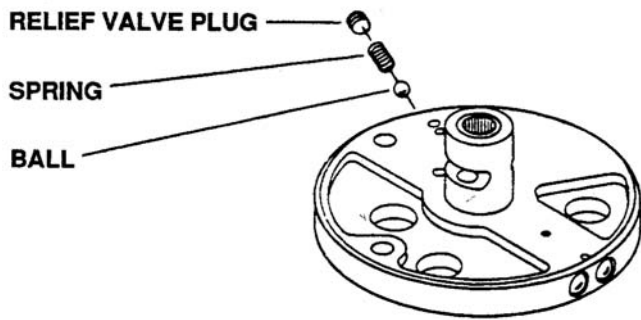

Figure 6-89. Removing Relief Valve Plug Spring and Ball
- a. Using a 1/4 inch allen wrench, remove relief valve plug. Remove ball and spring. See Figure 6-89.